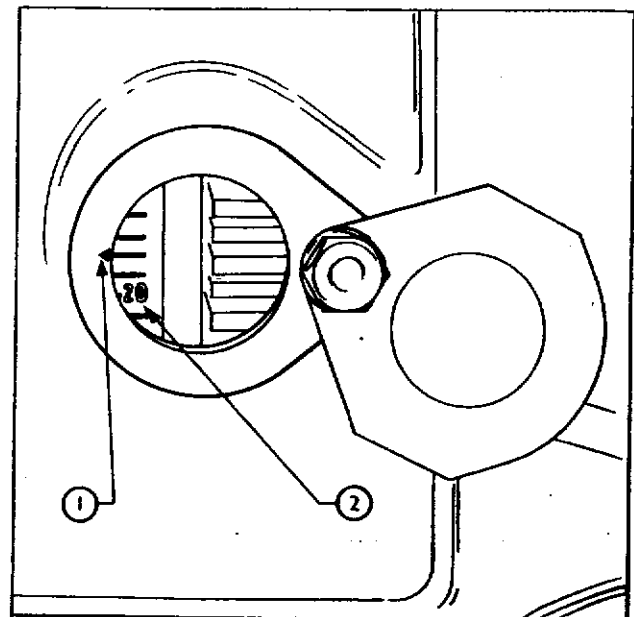

Fig. 75 1 Timing Mark
3. Set the engine timing marks to 9° B.T.D.C. Rotate the crankshaft until the timing mark (see Fig.75) is in line with the 9° mark on the flywheel timing scale with No. 1 piston approaching the top of the compression stroke. When the engine is on the correct stroke a timing mark on the rear face of the camshaft gear will be visible in the injection pump mounting aperture.